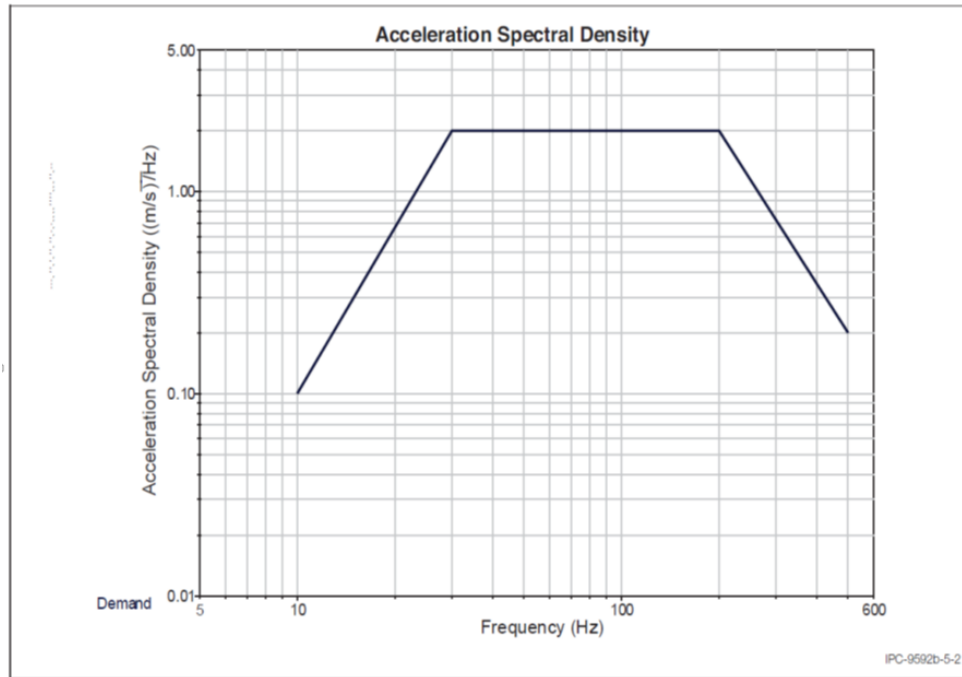

Figure 20. Class II PCDs Operating Vibration Test: Acceleration vs Frequency
**Test Method:** The devices shall be tested per the methods described in IEC 60068-2-64, Environmental testing - Part 2: Test methods - Test Fh: Vibration, broad-band random (digital control) and guidance. Each device shall be tested in three axes for a minimum of 30 minutes per axis. The device shall be powered for the duration of the test at nominal input voltage and no load. For operating vibration testing, see Figure 20.